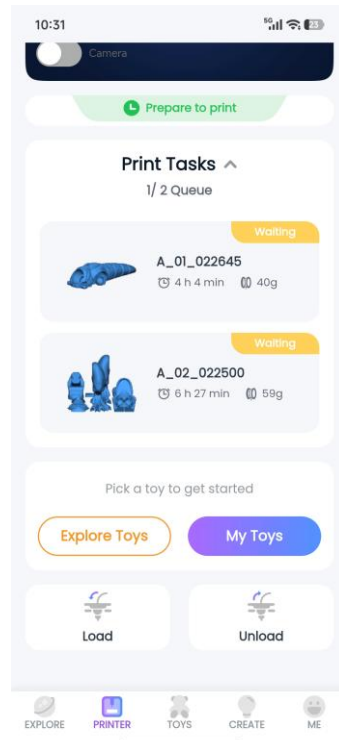

Figure 2
A1: ① Check whether the end of the filament is cut as shown below, and cut it accordingly. ② Insert the filament upward into the filament inlet as shown in Figure 2. ③ Press the orange latch upward while pushing the filament upward.
- When there is an active print task, it shows the "Printing" state, as shown in Figure 2;
- If you select a multi-part model, printing one model creates multiple print tasks, as shown in Figure 1. After printing starts, the task list displays the task currently printing and those waiting to print, along with the estimated duration and PLA usage for each task, as shown in Figure 2.**